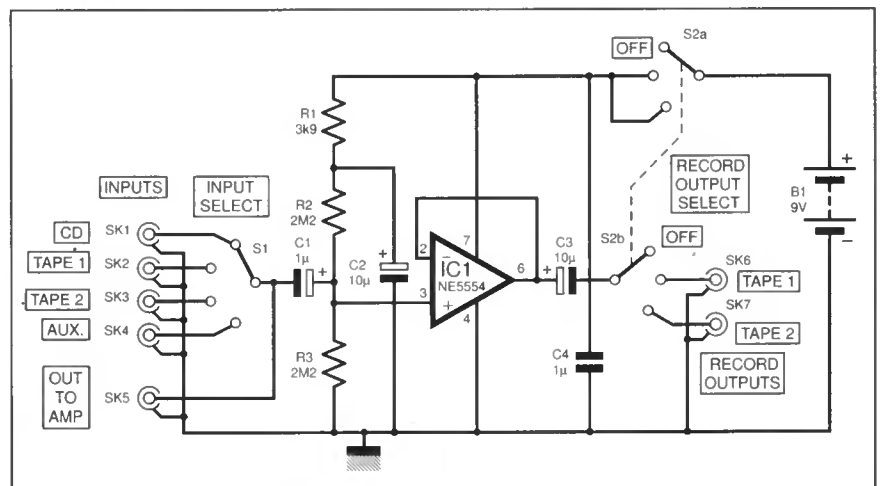

Fig.2. Circuit diagram for the Audio Switching unit.
**V**ARIOUS audio switching units are available which enable several hi-fi separates to be connected to a single input of an amplifier or midi system. The design depicted in Fig.2 is a switching circuit which allows a selected audio signal to be recorded by one of two possible tape decks. One half of a suggested stereo system is shown.